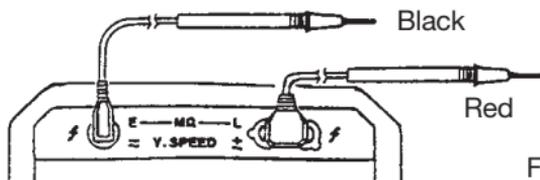

Fig. 5
2. Connect the amber plug of the red test lead to the  $\pm$  terminal on the right and the black plug of the black test lead to the  $\approx$  terminal on the left as shown in Fig. 5.